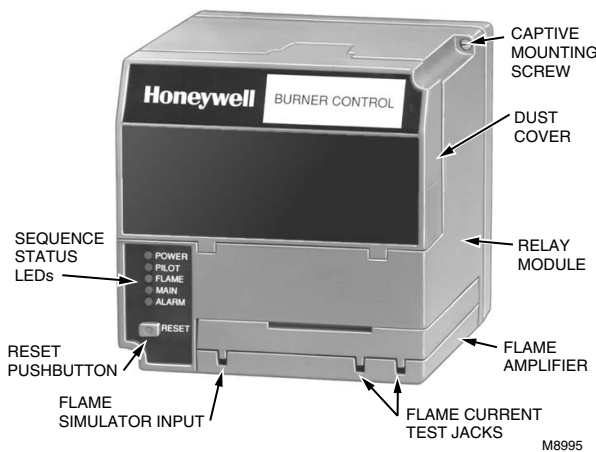

Fig. 1. Sequence status LEDs.
- Five (LEDs) for sequence information. (See Fig. 1.)